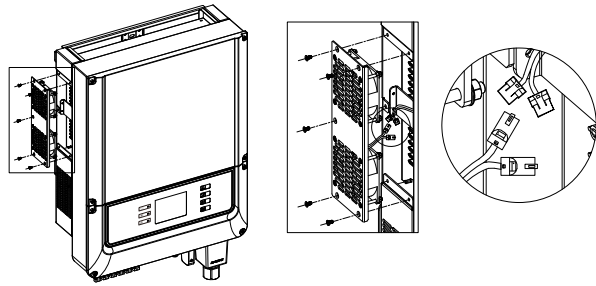

Figure 7.1-1
- Disassembly the fans (refer to Figure 7.1-1).